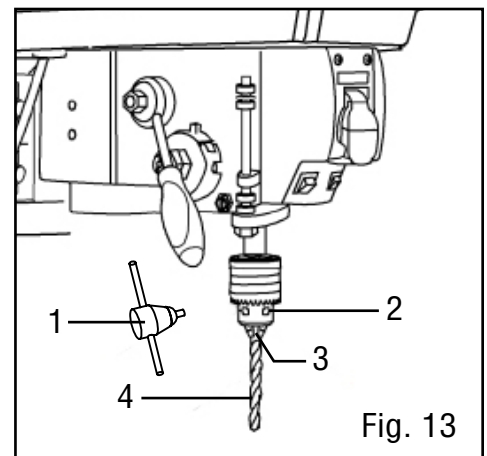

Fig. 13
INSTALLING A DRILL BIT (FIG. 13)
1. Place the chuck key (Fig. 13 - 1) into the side keyhole of the chuck (Fig. 13 - 2), meshing the key with the gear teeth.
2. Turn the chuck key counterclockwise to open the chuck jaws (Fig. 13 - 3).
3. Insert a drill bit (Fig. 13 - 4) into the chuck far enough to obtain the maximum grip of the chuck jaws on the bit shank.